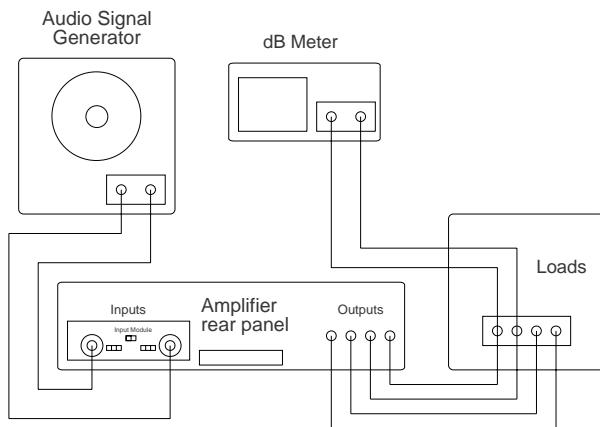

**Figure 11. EQ Card Placement**
**26.3** Secure the ACM-1 module to the amplifier chassis by tightening two screws (3) with a phillips-head screwdriver.
**Note:** Refer to Figure 11 for the following procedures.